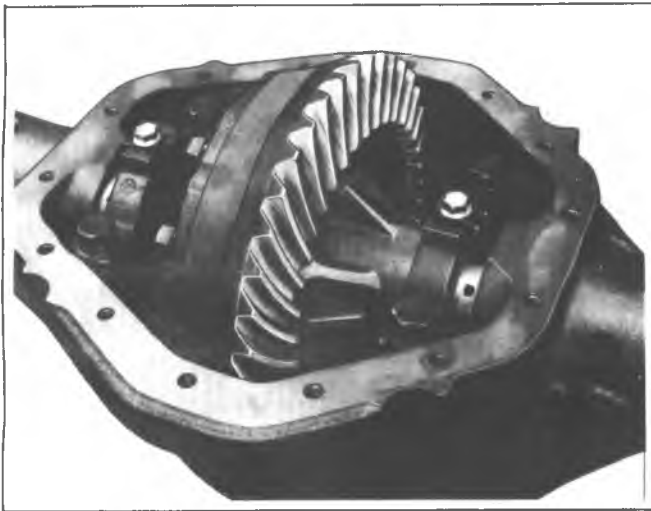

Fig. 2E-Cover Removed from Carrier
2. Remove cover bolts and cover, as seen in figure 2E, and allow lubricant to drain into pan.